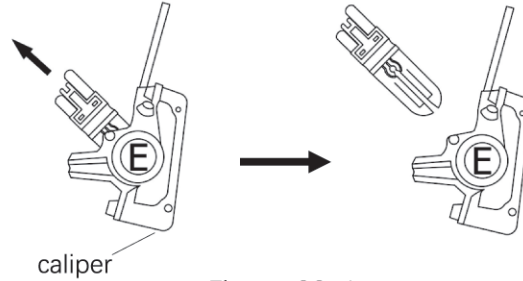

Figure 38-1.
a. Pull off the plastic chips from the brake caliper, as shown in Figure 38-1.